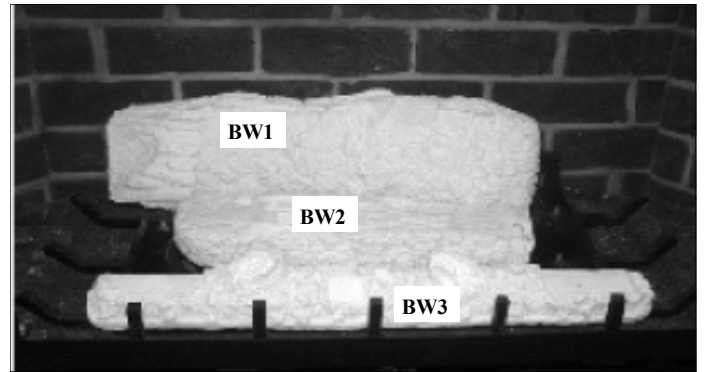

Figure 13A
1. Position the base logs BW1, BW2 & BW3 onto the burner cover aligning the holes and/or notches in the bottom of the logs to the brackets in the burner cover. *Figure 13A*